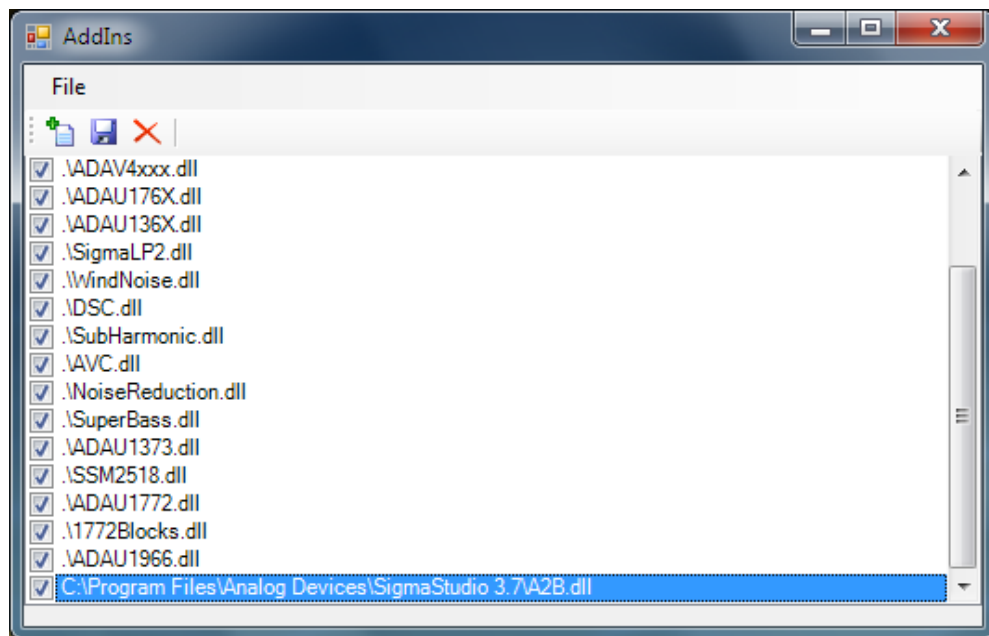

Figure 8: Add-In browser of SigmaStudio
2. Launch SigmaStudio and select the “Add-Ins Browser” from the “Tools” menu. This will open a window as shown in Figure 8.